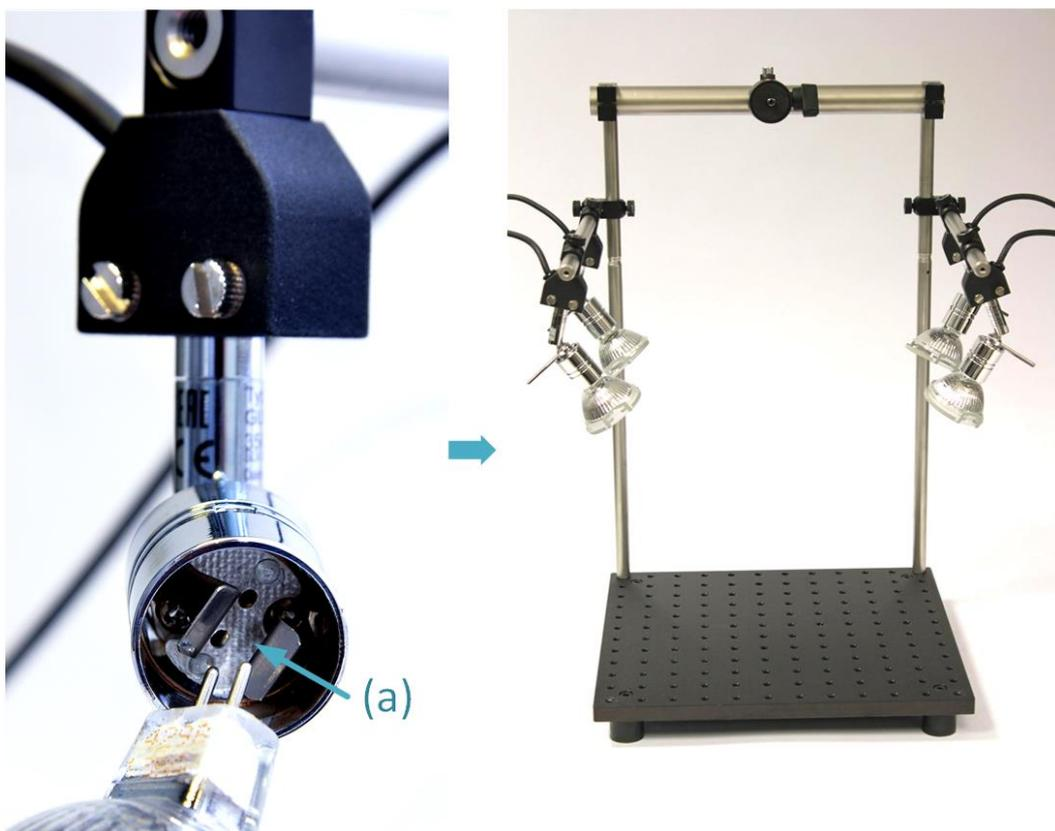

Figure 32 Mounting the lamps into the holders (Step 4.4)
Step 4.4 Mount the lamps into the holders (Figure 32)